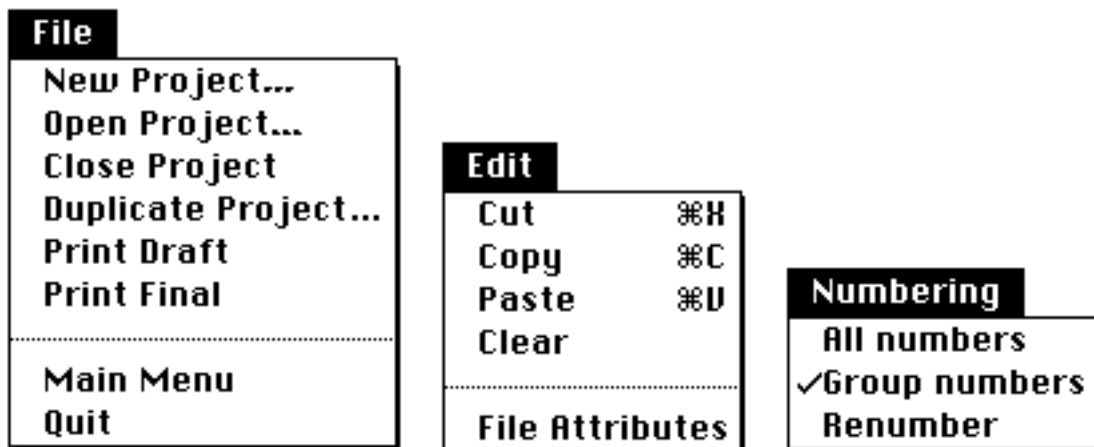

Fig 3.100 Library menus
Only the Help number changes on the 🍏 menu; the File menu (Fig 3.100) does not change.
- Select Duplicate Project... from the File menu (Fig 3.100) of the Library module.